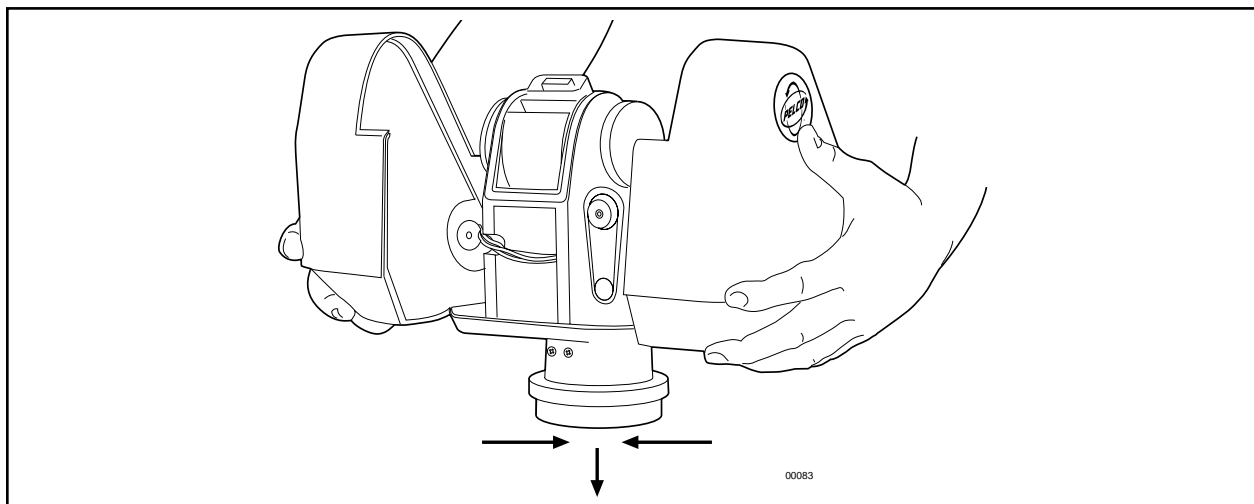

Figure 10. Replacing the Cover Halves
- a. Refer to Figure 10 and grasp one cover half in each hand and position the covers on each side of the pan/tilt unit.